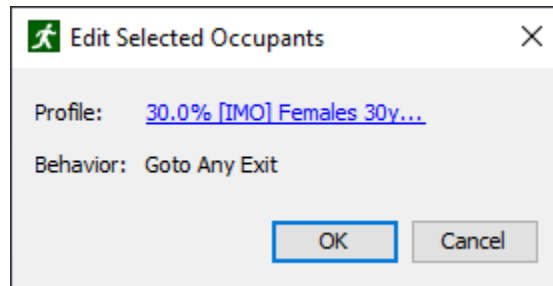

Figure 121. Edit Selected Occupants dialog
1. Select occupants, right-click one of the selected occupants either in the Navigation view or Model view, and then select **Properties** from the right-click menu. To edit a single occupant or group, double-click the occupant or group in the Navigation view. The Edit Selected Occupants dialog will appear as shown in Figure 121.